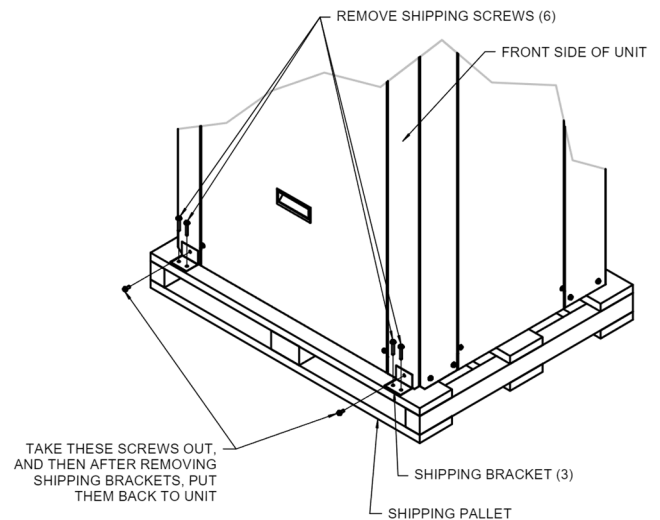
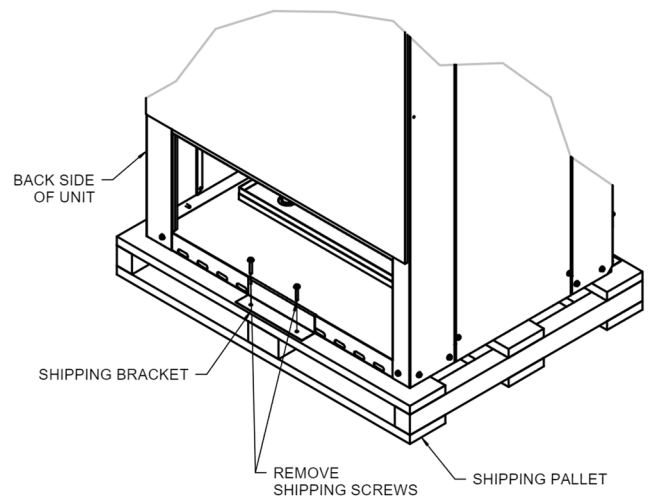

FIGURE 3 - Standard Packaging with Brackets – Front View
FIGURE 4 - Standard Packaging with Brackets – Back View
- 10) Ensure that shipping brackets and screws are removed from condensing section. Refer to **FIGURE 3 - Standard Packaging with Brackets – Front View** & **FIGURE 4 - Standard Packaging with Brackets – Back View** for more information.